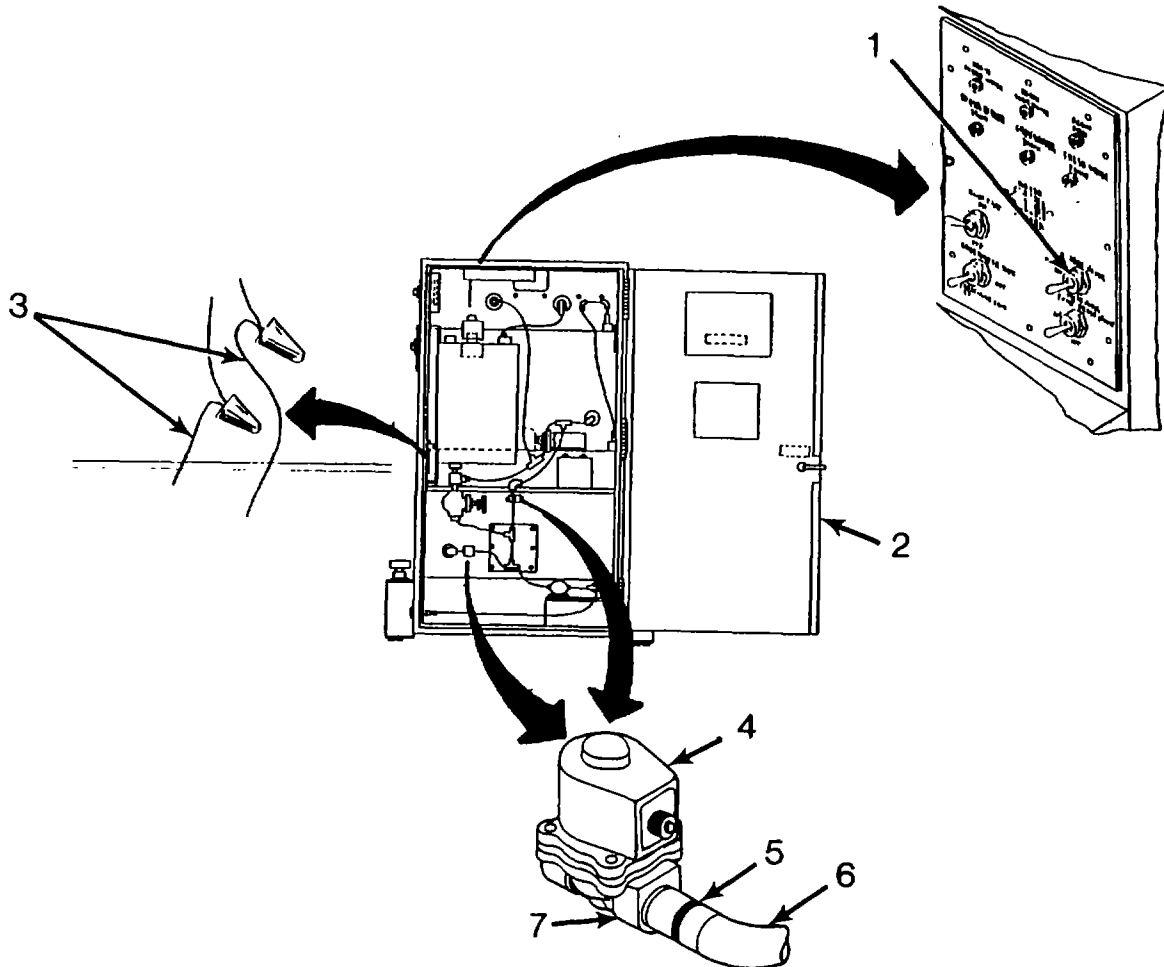

Figure 4-27. Replace Fresh Water or Gray Water Drain Solenoid
k. Repair by replacing Fresh Water or Gray Water Drain Solenoid. (Figure 4-27.)